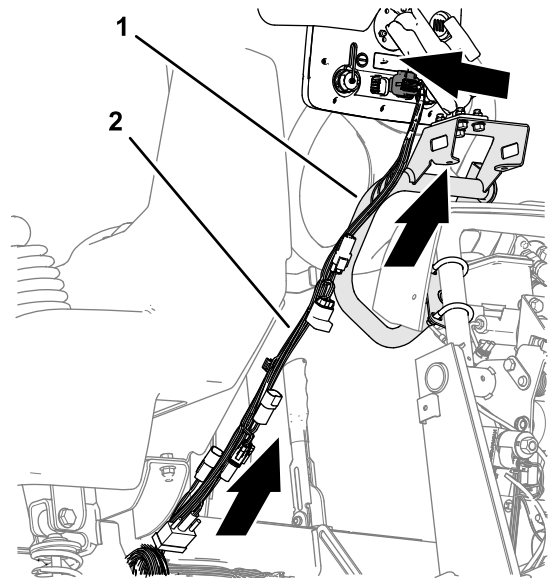

Figure 176
1. Route the 227 cm (89-1/2 inch) branch of the navigation-data and electrical harness (the branch with the 26-socket connector) up and along the support tube for the control console (Figure 176).